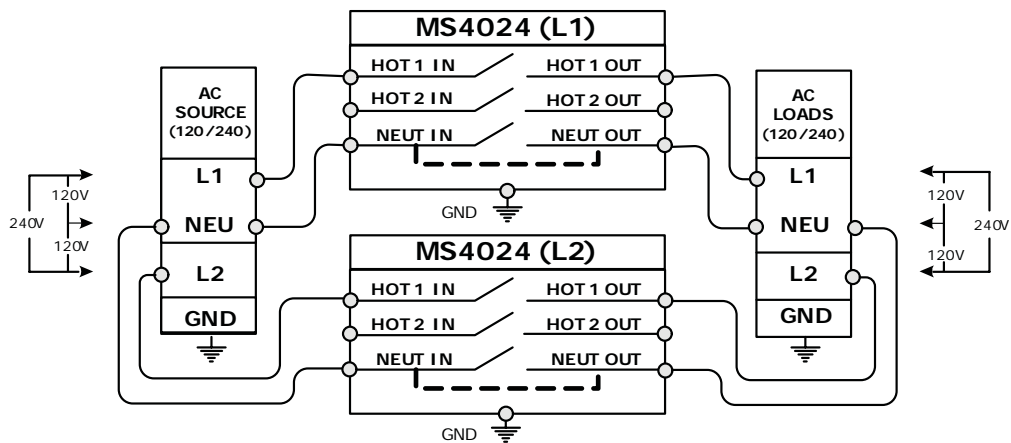

Figure 7, Single In/Out (30A with 120/240VAC source)
- **Split-phase (120/240VAC)** – This AC type provides both 120 and 240VAC. It has two 120VAC lines (L1 and L2), a neutral and a ground. The two 120VAC lines are 180° out-of-phase with each other, so that the combination of the L1 and L2 lines total 240VAC and the voltage between either L1 or L2 and neutral is 120VAC. When split-phase power is connected to the HOT 1 IN of each inverter (L1 to one inverter and L2 to the other inverter) and passing through the inverters, the incoming power is shared with the charger and the HOT 1 OUT lines continue to be 180° out-of-phase. This source is the ideal type as it will be able to provide 120/240VAC to power loads when inverting and also in Charge/Transfer mode. See Figures 7 and 9.
AC Input – Each inverter requires a two-conductor (hot and neutral) plus ground cable, with the hot conductor fed by a circuit breaker. If you decide to use the Single In/Single Out (30A) connection (see Figures 7 and 8), each inverter would require a 120VAC hot conductor (protected by a maximum 30A circuit breaker) connected to the HOT 1 IN terminal. The neutral conductor, which must be sized to handle the total current capacity of the HOT 1 IN conductor, must be connected to the NEUT IN terminal and a ground conductor connected to the AC ground terminal on each inverter.
Single In/Single Out (30 Amps) – Using a single line (HOT 1) for the input and output provides up to 30 amps AC pass-thru and shares power with the charger. Use this configuration if your AC source is 30 amps or less. See Figures 7 and 8 below.
Info: The dashed lines between the NEUT IN and NEUT OUT in Figures 7 through 10 represent the RD and MS-AE Series models. Those models have no internal relay between the NEUT IN and NEUT OUT, as they are tied together.